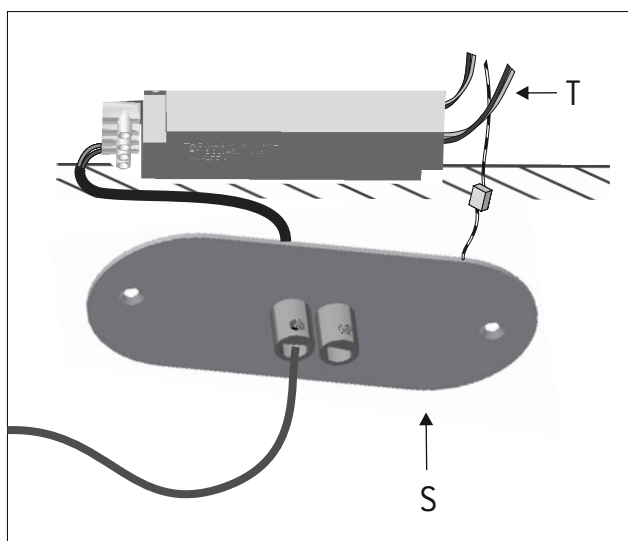

Figure 19
19 - Make a hole of 100mm x 55mm (3.7/8" x 2.1/8") in the dropped ceiling. This must be located between the holes of the mounting bracket (S). Insert the driver into the dropped ceiling hole and connect the electrical wires (T). Figure 19.